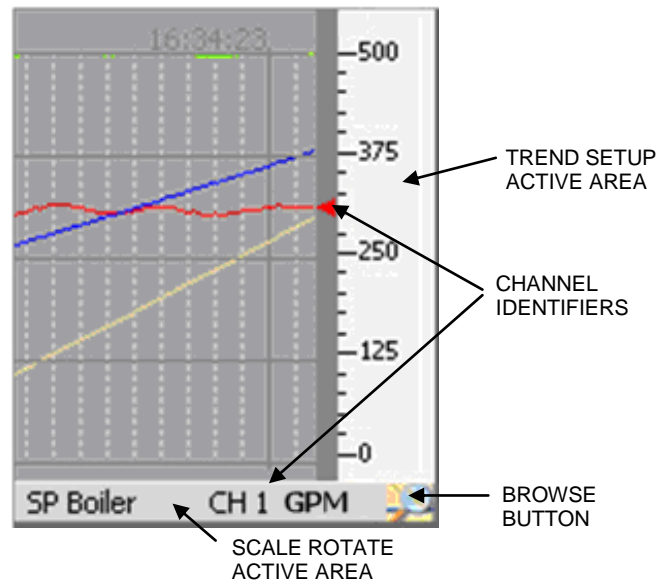

Figure 5-3-3 Trend View
**Scale:** This is the Channel Scale rotate select. When set to AUTO the scales will rotate sequentially through all scales of channels on display. As each channel is active the channel pointer will appear on the column immediately left of the scales and the Channel number and engineering units will display on the bar below the trend. See Figure 5-3-3. When set to MANUAL the first channel will have its scale displayed and will not rotate. Scales can be rotated by pressing the bar below the trend. Setting Scale to ALL puts up all channel indicators and the scale is permanently set at 0 to 100 %. No Channel number is displayed on the bar.